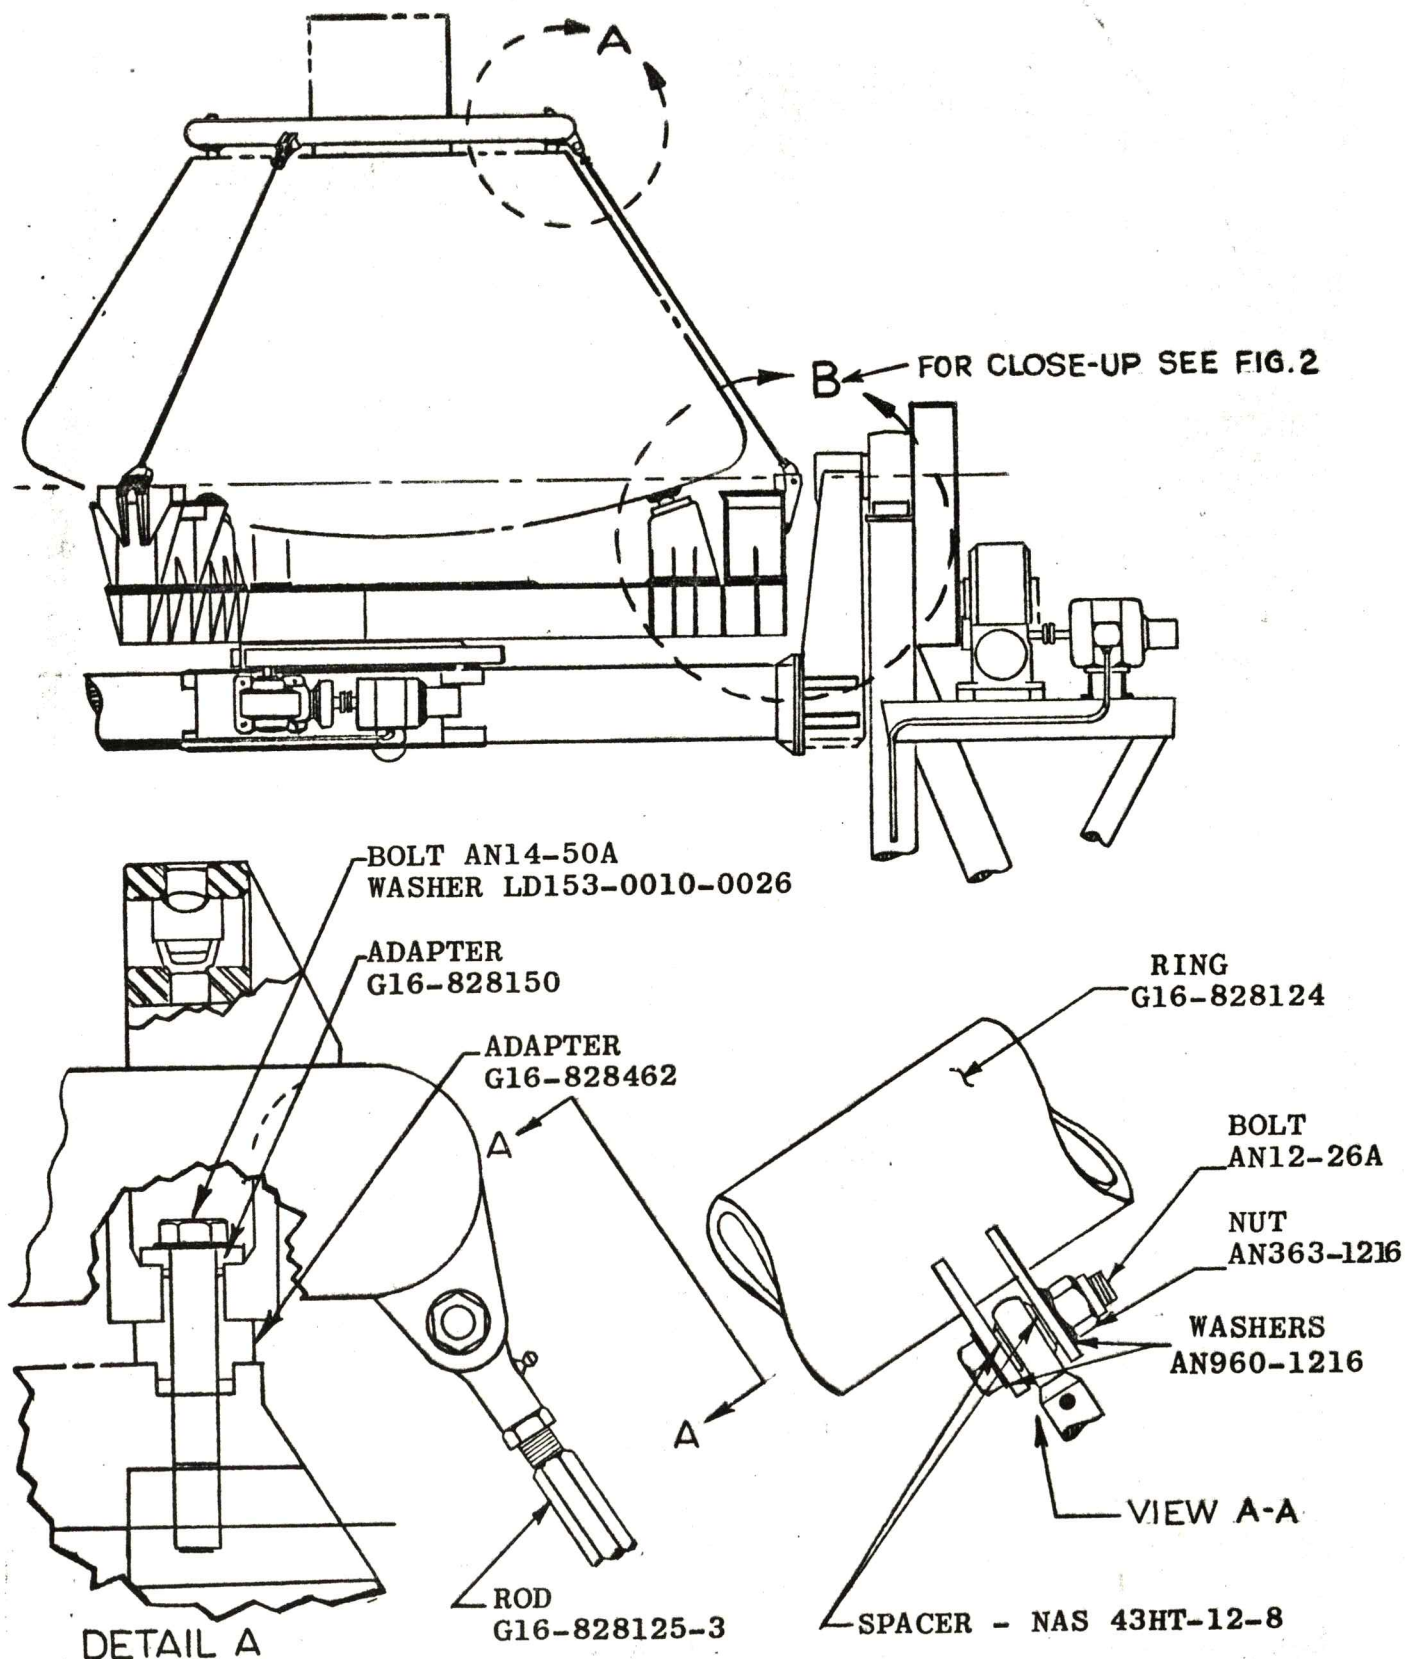

FIGURE 1. INSTALLATION OF C/M IN CLEANING POSITIONER
- 1.1.7 SECURE G16-828124 RING TO C/M (SEE FIGURE 1) USING THE FOLLOWING HARDWARE..
- 1.1.13 ATTACH THREE G16-828125-3 RODS TO G16-828124 RING (SEE FIGURE 1) USING THE FOLLOWING HARDWARE..